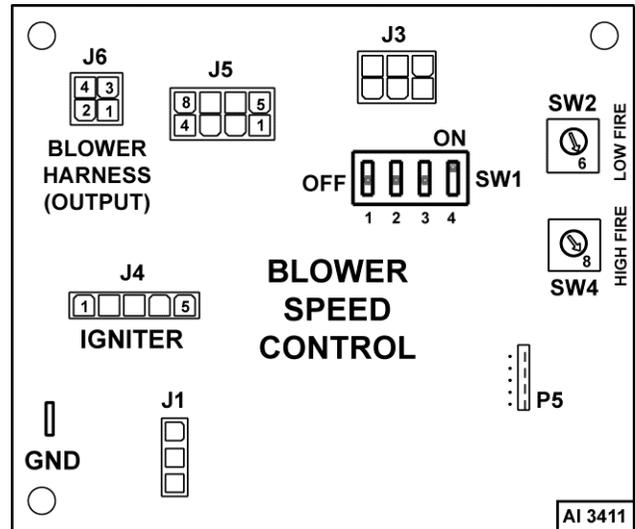

Fig. 9
**Blower Speed Control - Switch Settings 1st Generation Motor (Baldor High Fire and Low Fire Settings Shown in Fig. 9)**